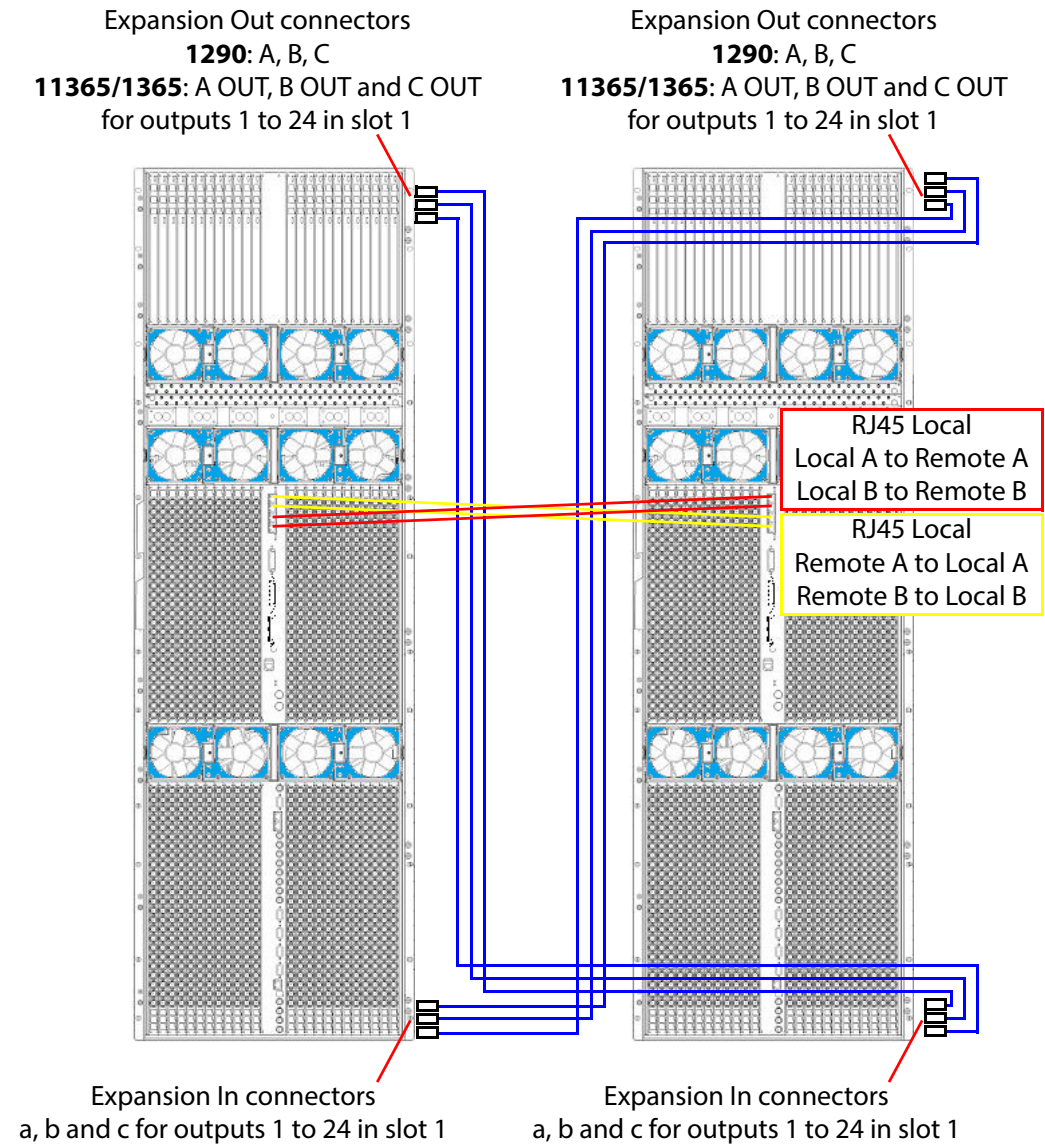

Figure 168 Two Sirius 850 Frames Connected Together (slot 1 cabling shown as an example)
This section describes what hardware is required to expand an existing single router to a dual router system. See Figure 168 for a details of the video signal wiring between the routers and Figure 168 for a diagram of the control interconnections.
- **1290:** The connections on the 1290 rear panel are marked A, B and C. The expansion cables connect A to a, B to b and C to c (See Figure 168)
- **1365:** The connections on the 1365 rear panel are marked A OUT, B OUT and C OUT. The expansion cables connect A OUT to a, B OUT to b and C OUT to c (See Figure 168).